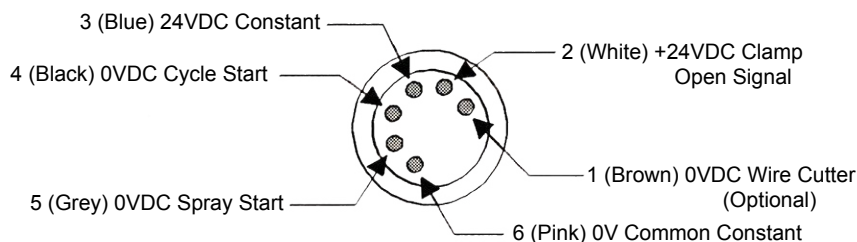

Fig. 2
Electical connection information for the nozzle cleaning station cordset is given in Fig. 2.
1. The cycle time for nozzle cleaning (reaming) is controlled by the robot program. With the ground “on” on Line 4 (see Fig. 2), the reamer starts upward travel, the blade begins rotating, and the clamp secures the welding nozzle in place. With the ground still applied, the reamer reaches the top of its stroke (cleaning position), and remains there as long as the ground is “on”. When the ground is turned “off”, the reamer will begin its downward travel, continuing to rotate with the clamp still closed. Upon reaching the bottom of its stroke (home position), the blade will stop rotating and the clamp will open.
2. Line 2 (see Fig. 2) is a “cycle status” line which informs the robot of the clamp status. When the clamp is open, the robot will see a 24VDC signal on this line. As the clamp is closed (during the cleaning cycle), Line 2 will read 0VDC. The robot program should not allow any robot movements when Line 2 is a 0VDC.
1. The anti-spatter sprayer is activated by the same type of signal as the “cycle” Line 4 (see Fig. 2). The robot should be programmed by Line 5, to move directly over the sprayer body to spray either before or after the reaming process. With the ground “on” on Line 5 (see Fig. 2), the sprayer will dispense anti-spatter until the ground is turned “off”. Spray dispensation should be determined by the robot operator.
2. The amount of anti-spatter delivered can be controlled in (2) ways. First, the length of time that the Line 5 is activated to ground “on”, and second is the adjustment of the flow control located on the side of the unit directly above the anti-spatter bottle. The flow control can be used to richen or lean the anti-spatter mixture.